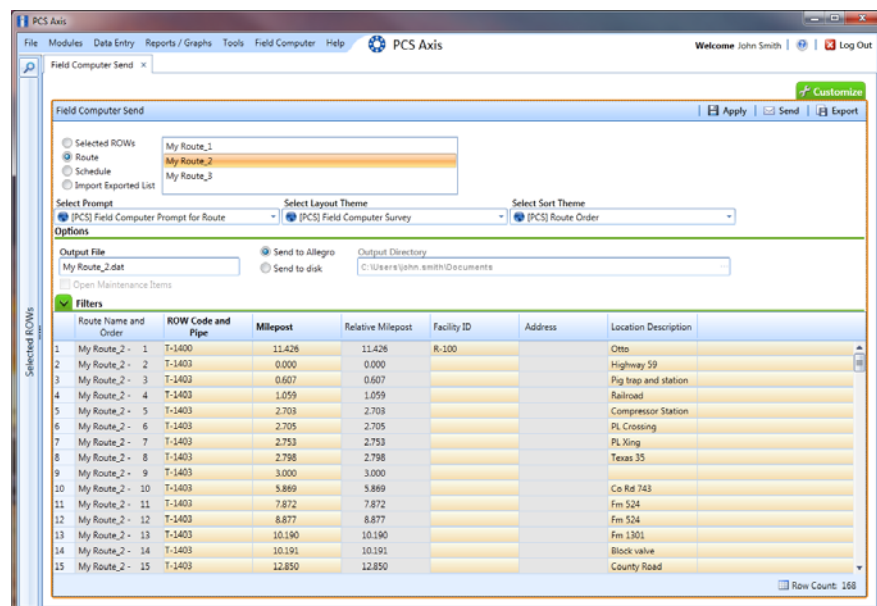

Figure 12-24. Field Computer Send Based on Route
- a Click the **Route** option and then select a route in the selection box (Figure 12-24, page 499).